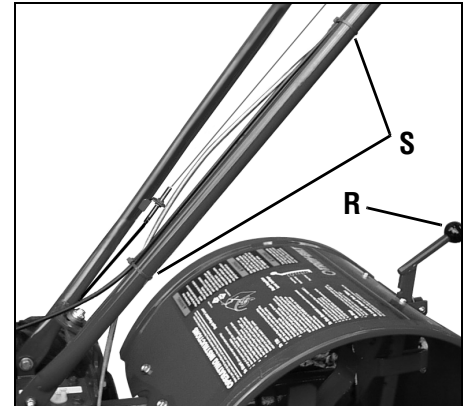

Figure 2-13: Attach wheel gear cable and reverse clutch cable with cable ties (S).
1. With the tiller on level ground, pull the Depth Regulator Lever (R, Figure 2-13) back and then slide it to the second notch from the top. NOTE: If the lever does not move, lift the tine hood flap and look for a plastic tie securing the lever in place. Cut and remove the tie.
3. Use a small board or rubber mallet to tap the Wheel Gear Lever knob securely onto the lever (R, Figure 2-13).
4. Secure the wheel gear cable and the reverse clutch control cable to the left-side handlebar with two plastic ties (S, Figure 2-13) located about two feet apart. Snip off any excess tie length.